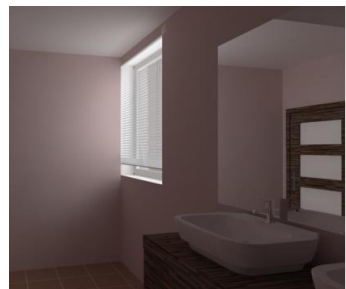

Fig. 181 – window-blind as one-sided material
- an example has been presented on the illustrations on the next page (Fig. 181 and 182);